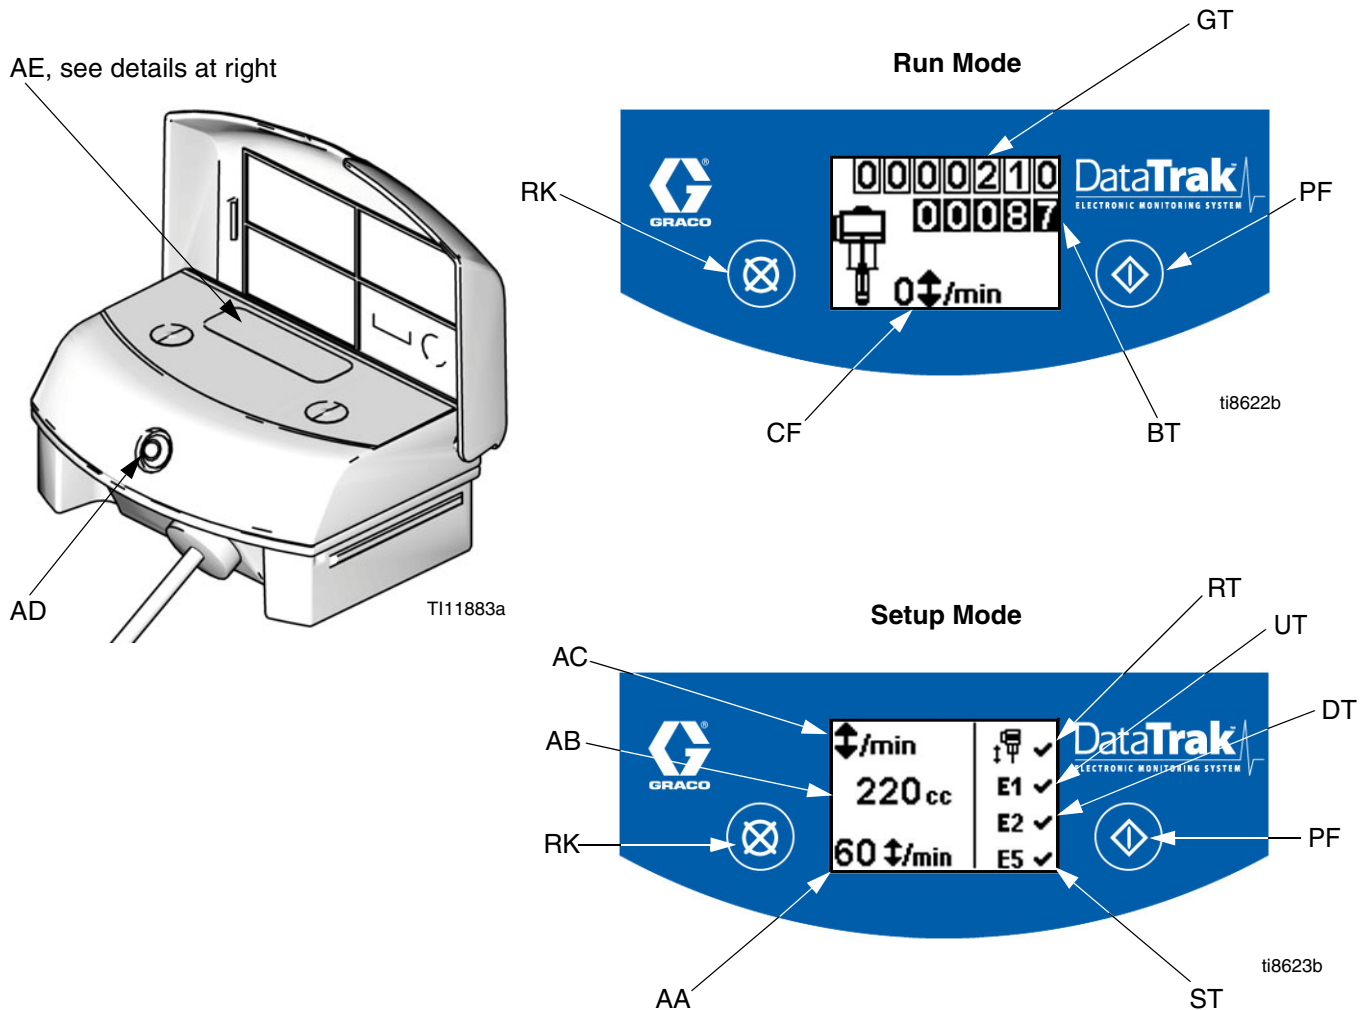

FIG. 7. DataTrak Controls and Indicators
## Key for FIG. 7
1. See FIG. 7. Press and hold  for 5 seconds until Setup menu appears.
**NOTE:** When runaway, E1, E2, and E5 error options are enabled, a ✓ will appear on the setup screen. See FIG. 7.
1. See FIG. 7. If pump runaway occurs, the runaway solenoid will actuate, stopping the pump. The LED (AD) will flash and the display (AE) will indicate a runaway condition (see Table 1). The display will cycle through six instruction screens.
2. Runaway Screens 1 and 2: To reset the runaway solenoid, close the master air valve (E). Wait for air to completely bleed off the air motor.
3. Runaway Screens 3 and 4: After the air is bled off, push the solenoid release button (J) down to reset the air valve. The button will pop back up when the air valve is repressurized.
5. Open master air valve (E) to restart pump.
**NOTE:** To disable runaway monitoring, go to setup mode and set runaway value to 0 (zero) or toggle (RT) off  (see FIG. 7).
1. See FIG. 7. To enter Prime/Flush mode, press any key to wake up the display, then press . The Prime/Flush symbol will appear in the display and
See FIG. 7. The last digit of the batch totalizer (BT) represents tenths of gallons or liters. To reset the totalizer, press any key to wake up the display, then press and hold  for 3 seconds.
See FIG. 7. The display (AE) will turn off after 1 minute of inactivity in Run mode or 3 minutes in Setup mode. Press any key to wake up the display.
**NOTE:** The display (AE) may turn off if a high-level static discharge is applied to the DataTrak. Press any key to wake up the display.
DataTrak can diagnose several problems with the pump. When the monitor detects a problem, the LED (AD, FIG. 7) will flash and a diagnostic code will appear on the display. See Table 1.